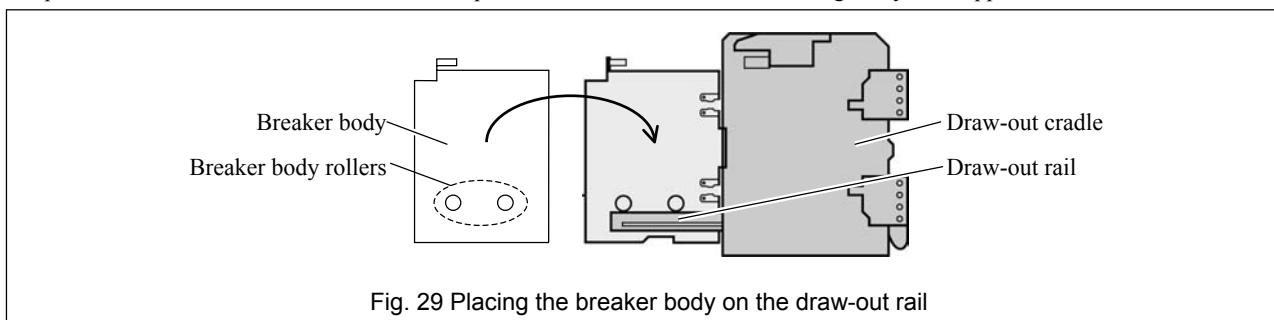

Fig. 29 Placing the breaker body on the draw-out rail
- 3) Use an optional lifter or lifting plate to place the breaker body rollers (Fig. 29) on the draw-out rail (Fig. 29).